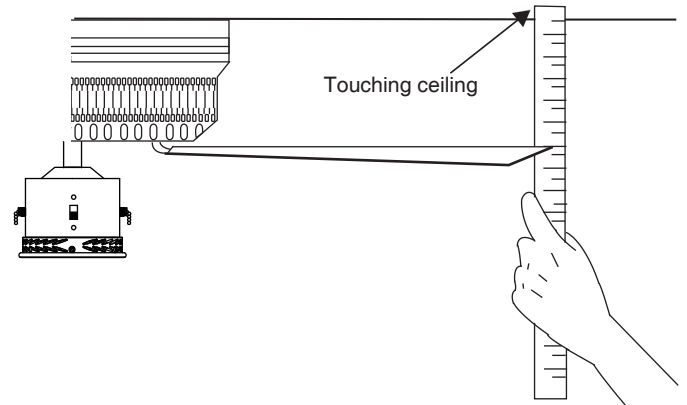

Fig. 11
2. Most fan wobble problems are caused when blade levels are unequal. Check this level by selecting a point on the ceiling above the tip of one of the blades. Measure from a point on the center of each blade to the point on the ceiling as shown in Fig. 11. Rotate the fan until the next blade is positioned for measurement. Repeat for each blade. Measurements deviation should be within 1/8" (3.2 mm). Run the fan for 10 minutes.